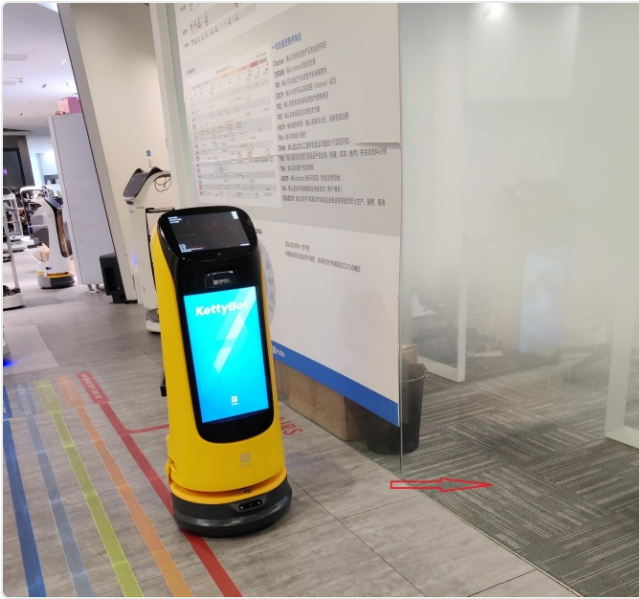

Figure 1-3-1
2. Orient the robot in the direction shown in Figure 1-3-1.